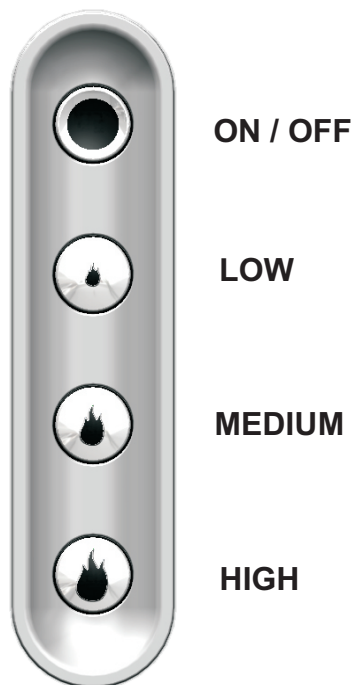

Fig 2.
2. For control lay-out refer to Fig 2.